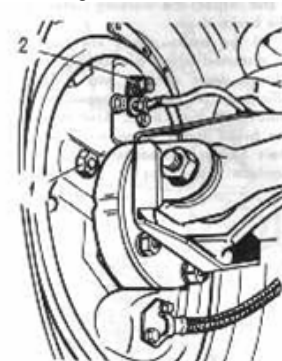

Fig 62. Brake backing plate viewed from rear axle. 1- adjusting eccentric head, 2- rear brake bleeder valve.
- Keeping the shoes pressed to the drums, turn adjusting eccentric heads 1 (Fig. 62) until they contact the shoes; release the brake pedal and turn the heads in the opposite direction through approximately 10";
2. Remove the protective caps from bleeder valves 3 (Fig. 59) and 2 (Fig. 62) and clean the latter of dirt and dust.